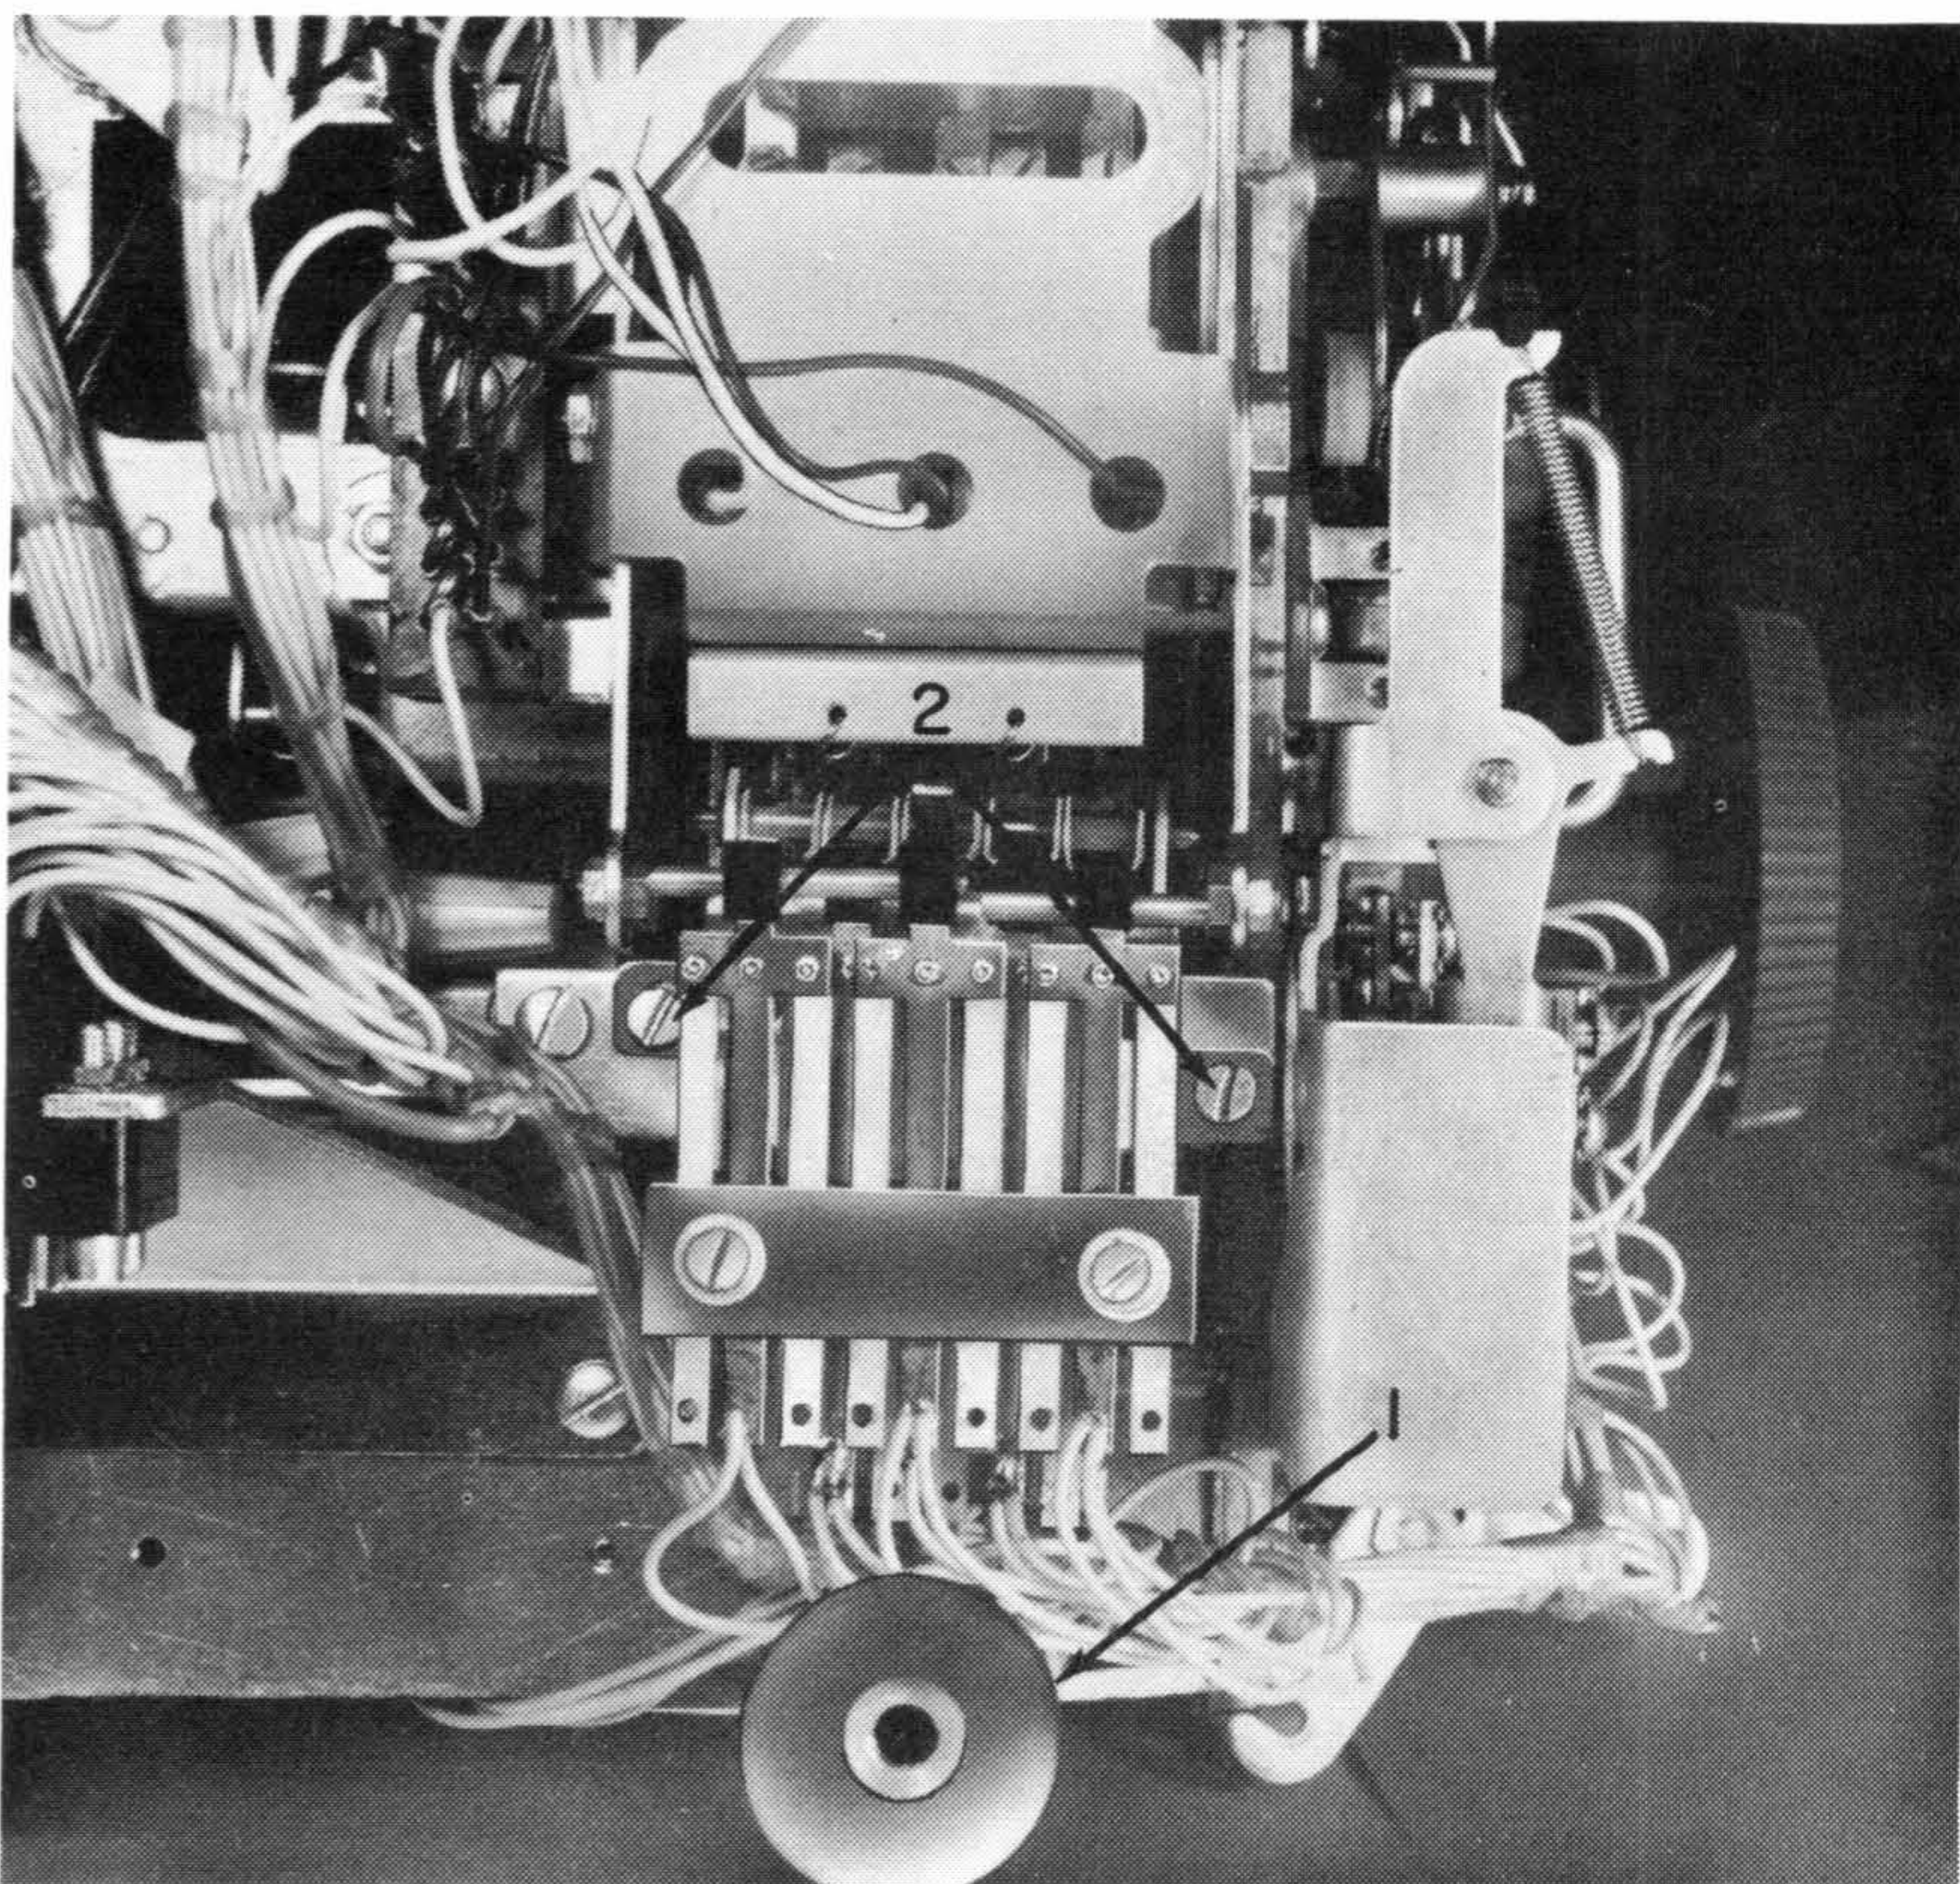

Figure 44. Operational Contact Removal
1. Remove the right rear mounting leg (#1, Figure 44).
2. Remove the two mounting screws (#2, Figure 44) and remove the contact assembly.